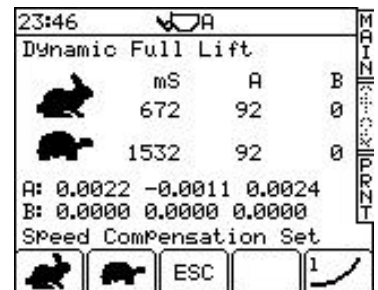

Figure 6a
1. With the menu pointer opposite the  symbol, lower the bucket then slowly lift through the weighing position again. If you lift too quickly, the display will flash 'Error'. If so, lower the bucket and try again. The instrument will beep once, then display the frequency output of each pressure sensor, and the sample time in milliseconds (fig. 6a).